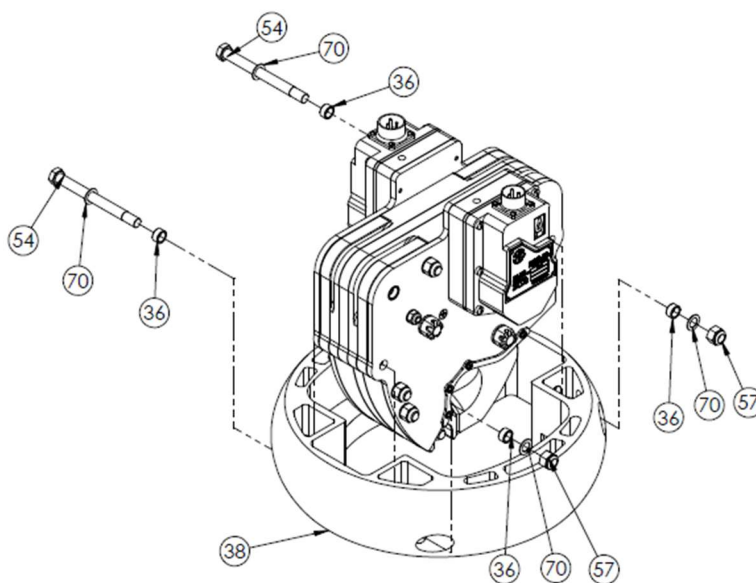

Figure 4.4: Bumper Ring (650-050-092-600) Installation / Removal
- Damage constitutes cracks where mounting bolts locate (see assembly /disassembly instructions – Figure 4.4 & 4.5)
- Remove Bumper Ring (Figure 4.4)
- Loosen Nuts (Item 56), then remove bolts (52) from bumper ring (35) and hook assembly.
- Bumper ring sides downward toward load beams to be removed. Bumper ring is to be installed with large webs facing down for clearance on external components shown in Figures 4.4 & 4.5.
- Loosen screws (items 64, 63, & 60) to remove release mechanism components from cargo hook. See Figures 4.4 and 4.5 for exploded views of each side of the cargo hook.